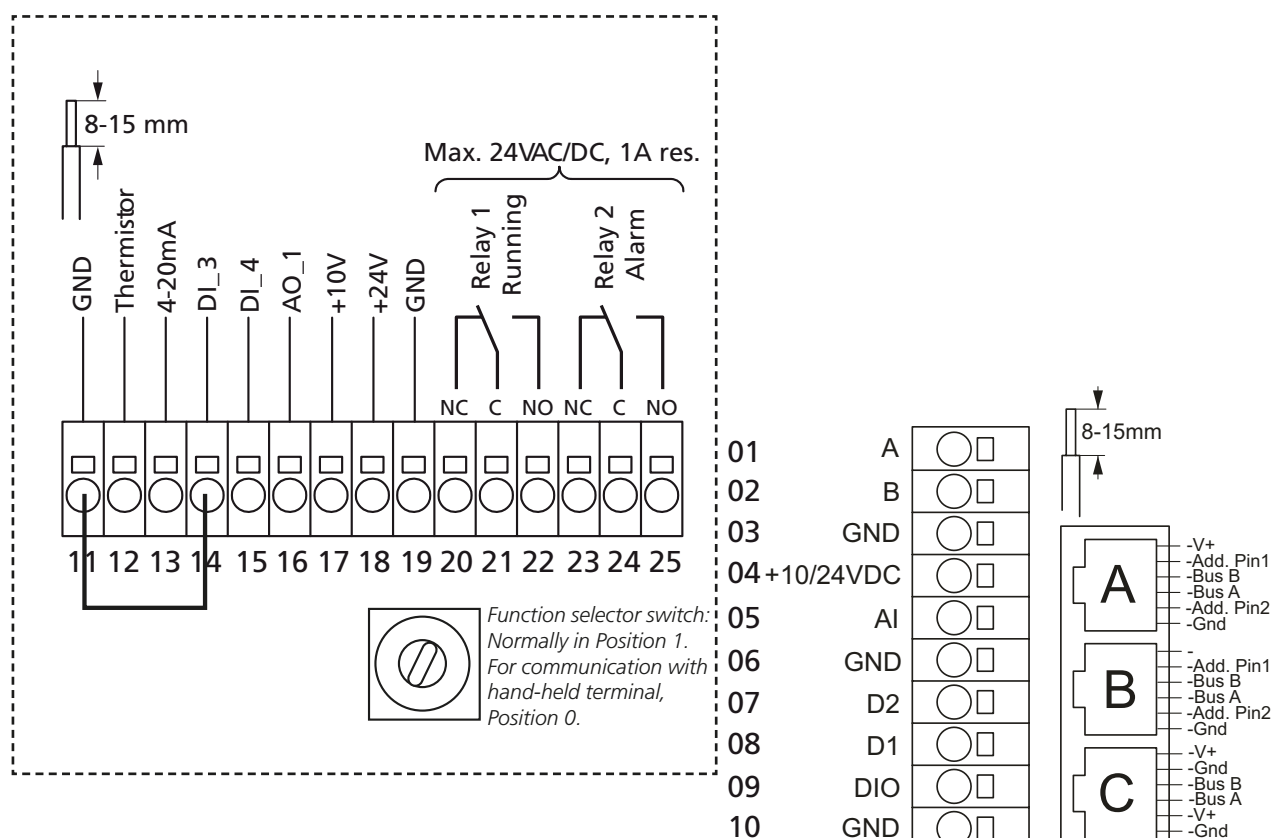

Fig. 1. Wiring terminals in the motor control system
The motor control system is equipped with a digital input for resetting alarms. The alarm output is reset by short-circuiting Terminals 06 (GND) and 07 (Din2) (See Fig. 1). The alarm output can also be reset by switching off the supply voltage to the motor control system for more than 60 seconds.
- Connect the 0 – 10 V DC control signal cable leads from an external regulator to Terminals 05 (0 - 10 V in) and 03 (GND) (See Fig. 1).
- Connect the control potentiometer cable leads to Terminals 04 (+10 Vdc), 05 (0 - 10 V in) and 03 (GND) (See Fig. 1 and 4).
- Connect the start and stop signal cable leads to Terminals 10 (GND) and 08 (Din1) (See Fig. 1). This should be a potential-free digital contact.
- Connect the firemode signal cable leads to the motor control system on Terminals 11 (GND) and 14 (Dig. in3) (See Fig. 1). This should be a potential-free digital contact.
- Connect the Alarm Reset signal cable leads to the motor control system on Terminals 06 (GND) and 07 (Din2) (See Fig. 1). This should be a potential-free digital contact.
- Connect the in-operation indication cable leads to Terminals 16 (0-10V out) and 19 (GND) (See Fig. 1).
- The in-operation signal cable is labelled "R1", and should be connected to Terminals 20 (NC), 21 (C) and 22 (NO) (See Fig. 1).
- The alarm signal cable is labelled "R2", and should be connected to Terminals 23 (NC), 24 (C) and 25 (NO) (See Fig. 1).